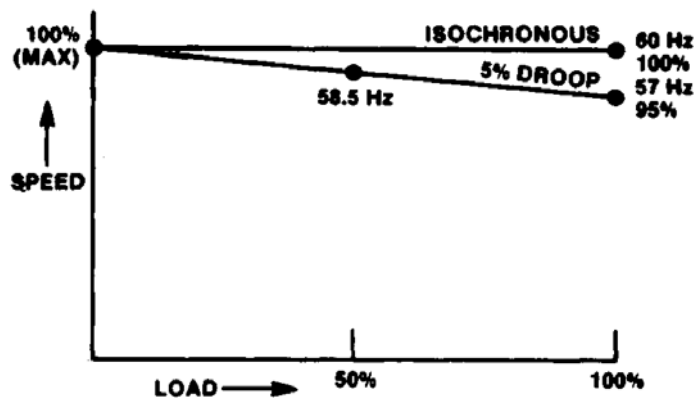

Figure 3-3. Droop Adjustment
*If only 50% loading is possible, 58.5 Hz would indicate 5% droop. See Figure 3-3.